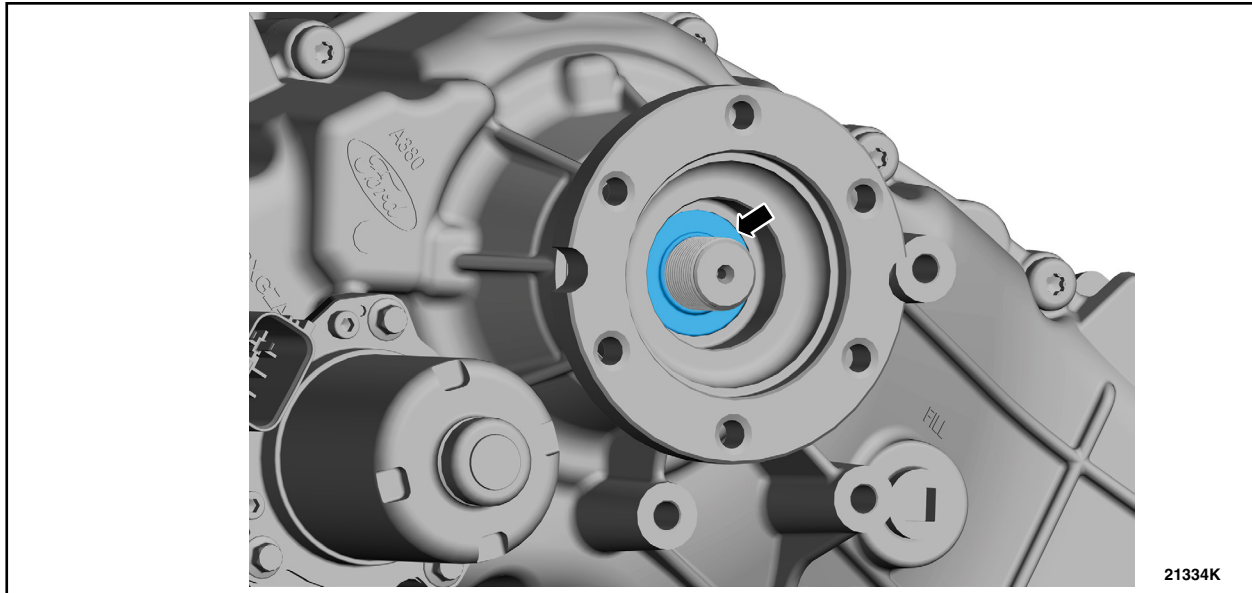

FIGURE 10
21. Remove the seal. See Figure 10.